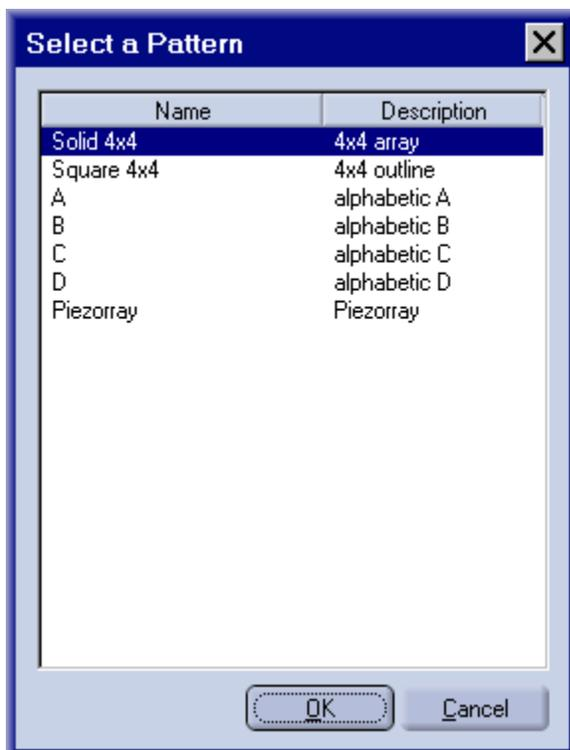

Figure 7-6. List of Defined Patterns.
4. Click on the  button to choose from the list of defined Patterns (Figure 7-6) that appears.